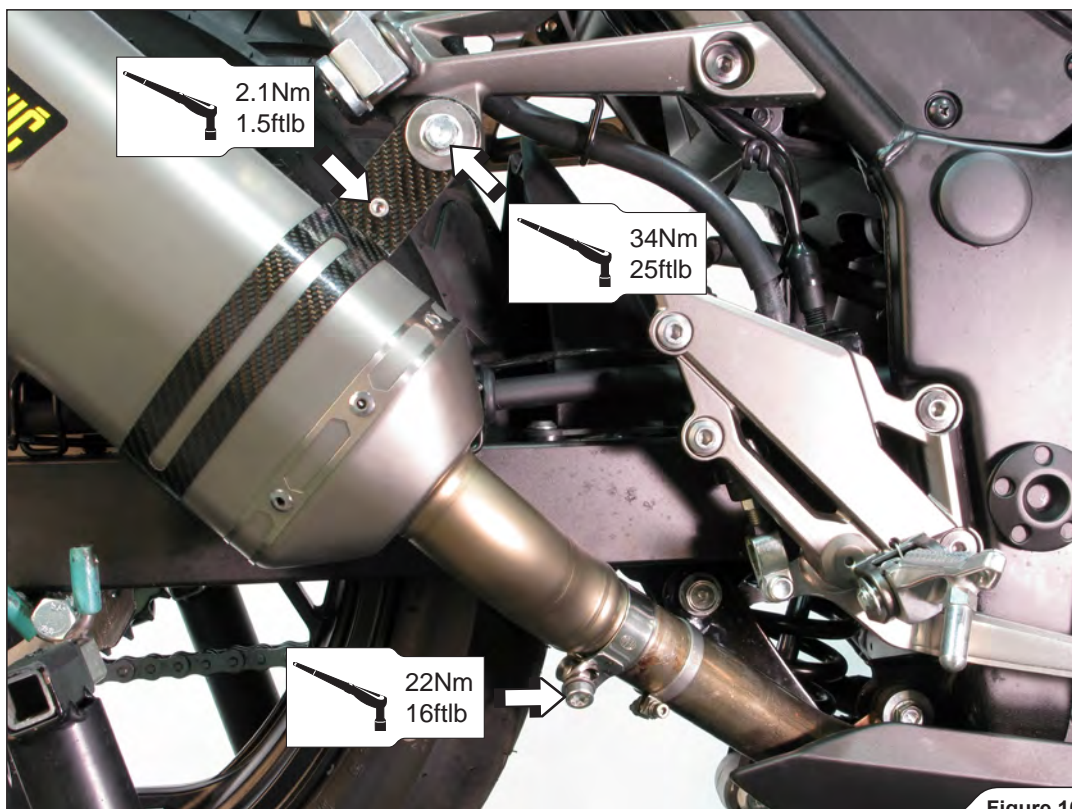

Figure 10
6. Align the muffler in respect to the motorcycle and tighten all bolts to the specified torques (Figure 10).